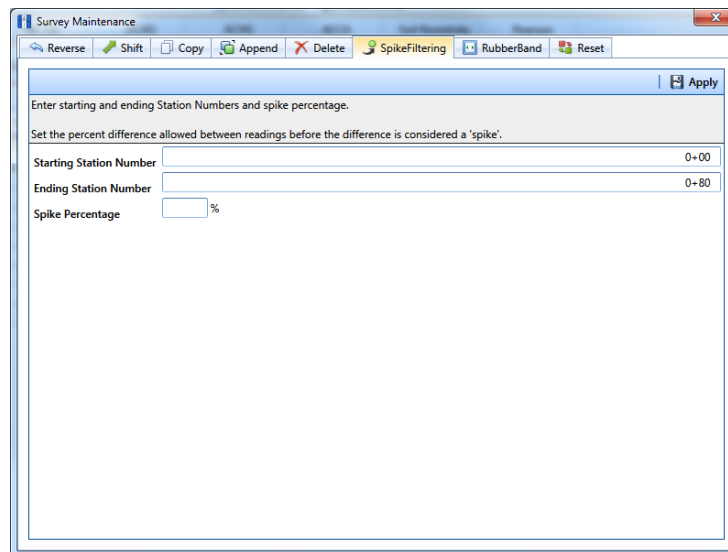

Figure 6-59. Spike Filtering
- 5 Click  **Survey Maintenance** to open the *Survey Maintenance* dialog box. Then click  **SpikeFiltering** (Figure 6-59, page 228).